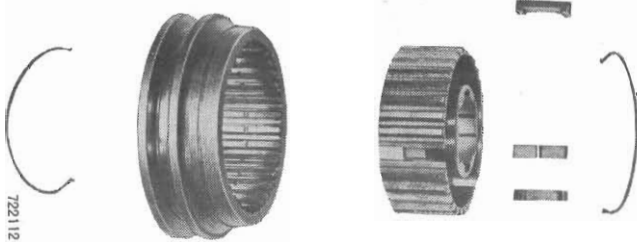

Fig. 15 - Exploded view—third and fourth speed synchronizer.
(4) The third and fourth speed synchronizer assembly is assembled the same way as the first and second except that the sleeve is assembled to the hub with the sleeve selector groove and inner hub spline protrusion at opposite ends—see Fig. 15.